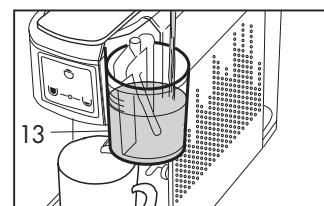

Fig. 13
- Remove the lid of the milk beaker (13) and fill the beaker with milk, taking care not to exceed the level indicated (we recommend a 90 cc dose of milk). (**Fig. 13**)
- Close the milk beaker (13) with the lid.